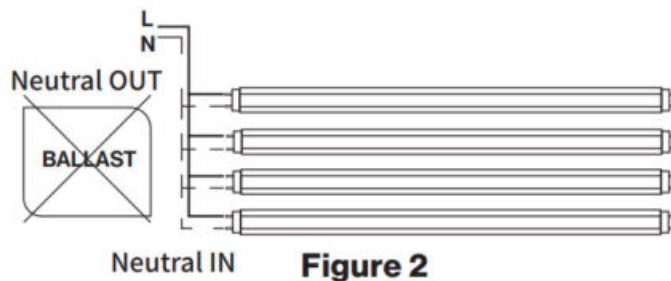

Figure 2
b. For multiple lamp installation, ensure a link between a separate neutral wire from primary source lamp holder's "Neutral OUT" and connect it to the "Neutral IN" terminal on the adjacent tube (Figure 2).